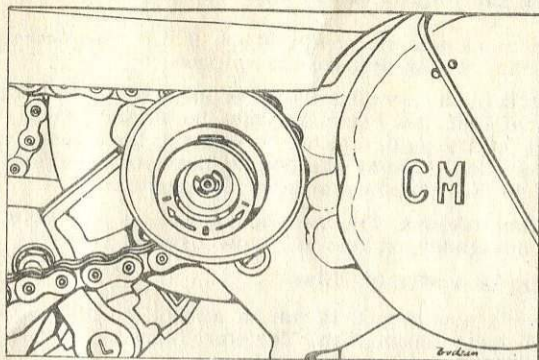

Fig. 7 — Engine drive disengaging mechanism
- i) engine drive disengaging mechanism (Fig. 7).
If you intend to use the moped as a bicycle (for instance after using up the fuel) pull the driving dog (in the direction from the engine) and rotate it through 90 degrees clockwise or anti-clockwise, and then release it (Fig. 7). The driving dog will remain engaged in this position and the driving moment is not transmitted from the engine to the rear wheel. To re-engage the engine, pull again the driving dog, rotate it through 90 degrees, and release it.